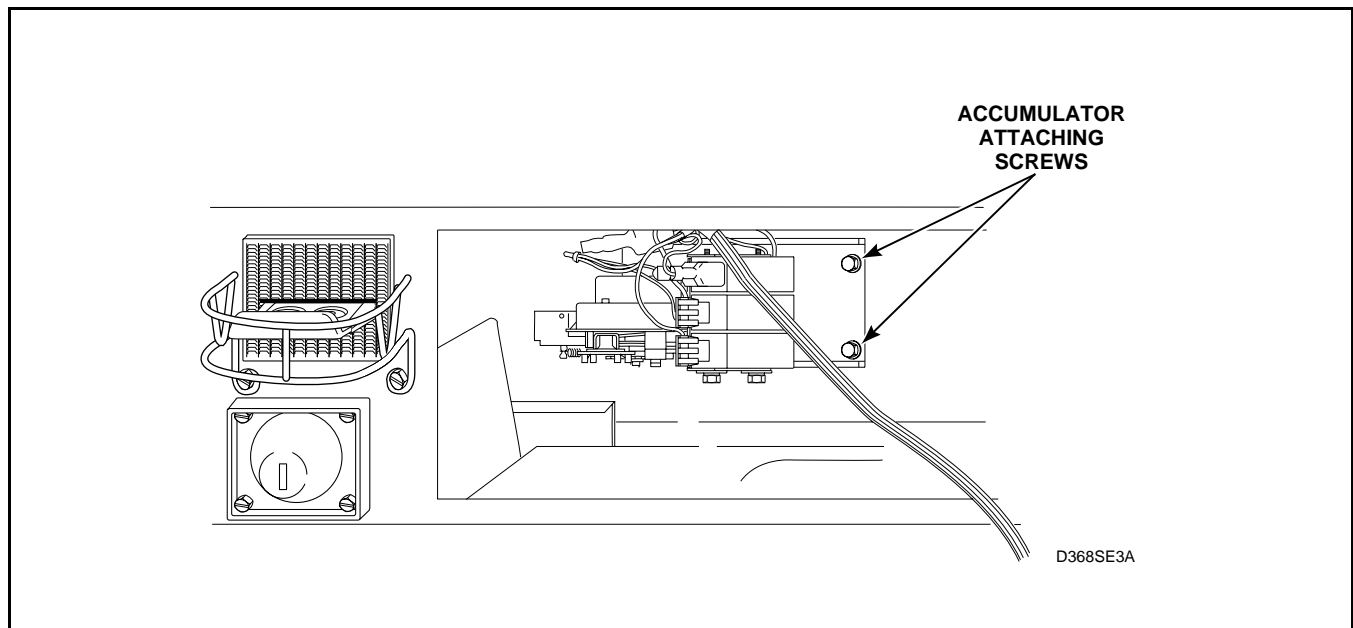

Figure 13
- f. Reach in through control panel opening and remove screws holding accumulator and mounting bracket to the control cabinet. See *Figure 13*.
- h. Remove two screws holding accumulator to mounting bracket. See *Figure 13*.